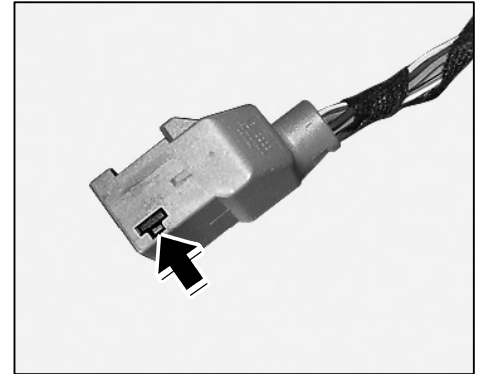

Figure 51
- 8.9.5 Remove tie-wrap, open lock ⇒ *Figure 51 -arrow-* on 16-pin connector for the switch console and disconnect plug socket and plug carrier.